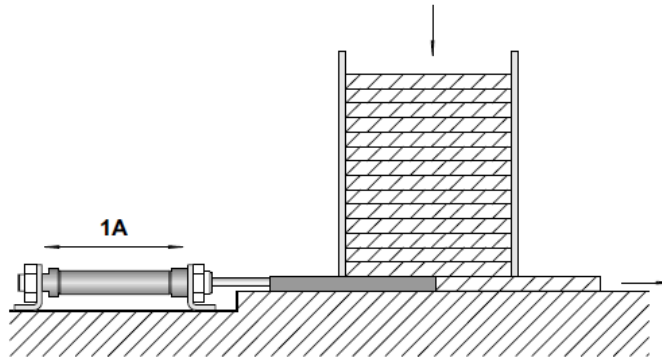

Figure 2 (c) / Rajah 2 (c)
- CLO2 (c) Wooden planks in Figure 2 (c) below are to be pushed along from a gravity feed magazine to a clamping device. By pressing a push-button switch, one plank is pushed out of the gravity feed magazine by the slide of a double-acting cylinder. After the slide has reached the forward end position, it is returned to its start position. Propose an electro-pneumatic circuit for this system.